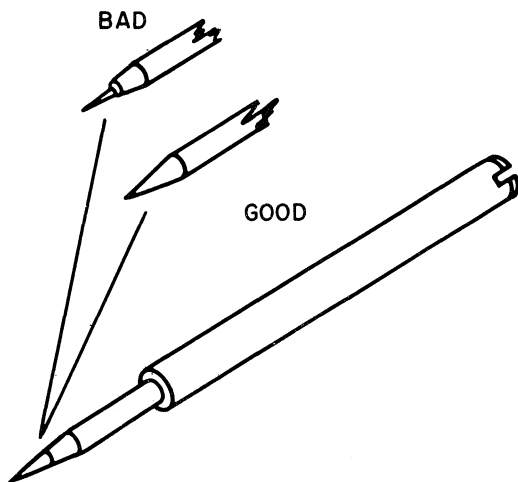

Figure 2
1. After disassembling and cleaning the parts, make a careful inspection of them. Replace any that are worn or damaged. It is particularly important that the needle valves be in good condition. Refer to Figure 2 for an illustration of good and bad points.